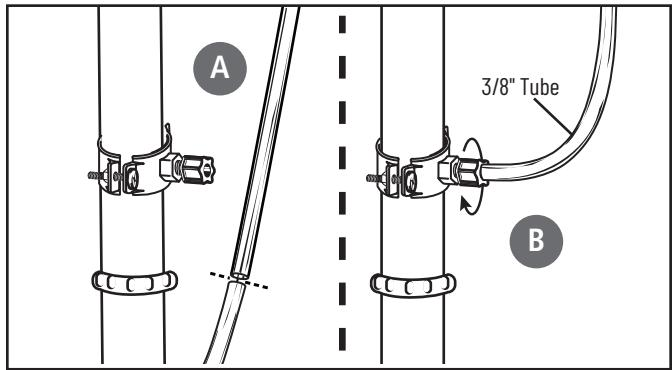

Figure 10
- NOTE:** Be sure to install cartridges in proper housings (see Figure 10).